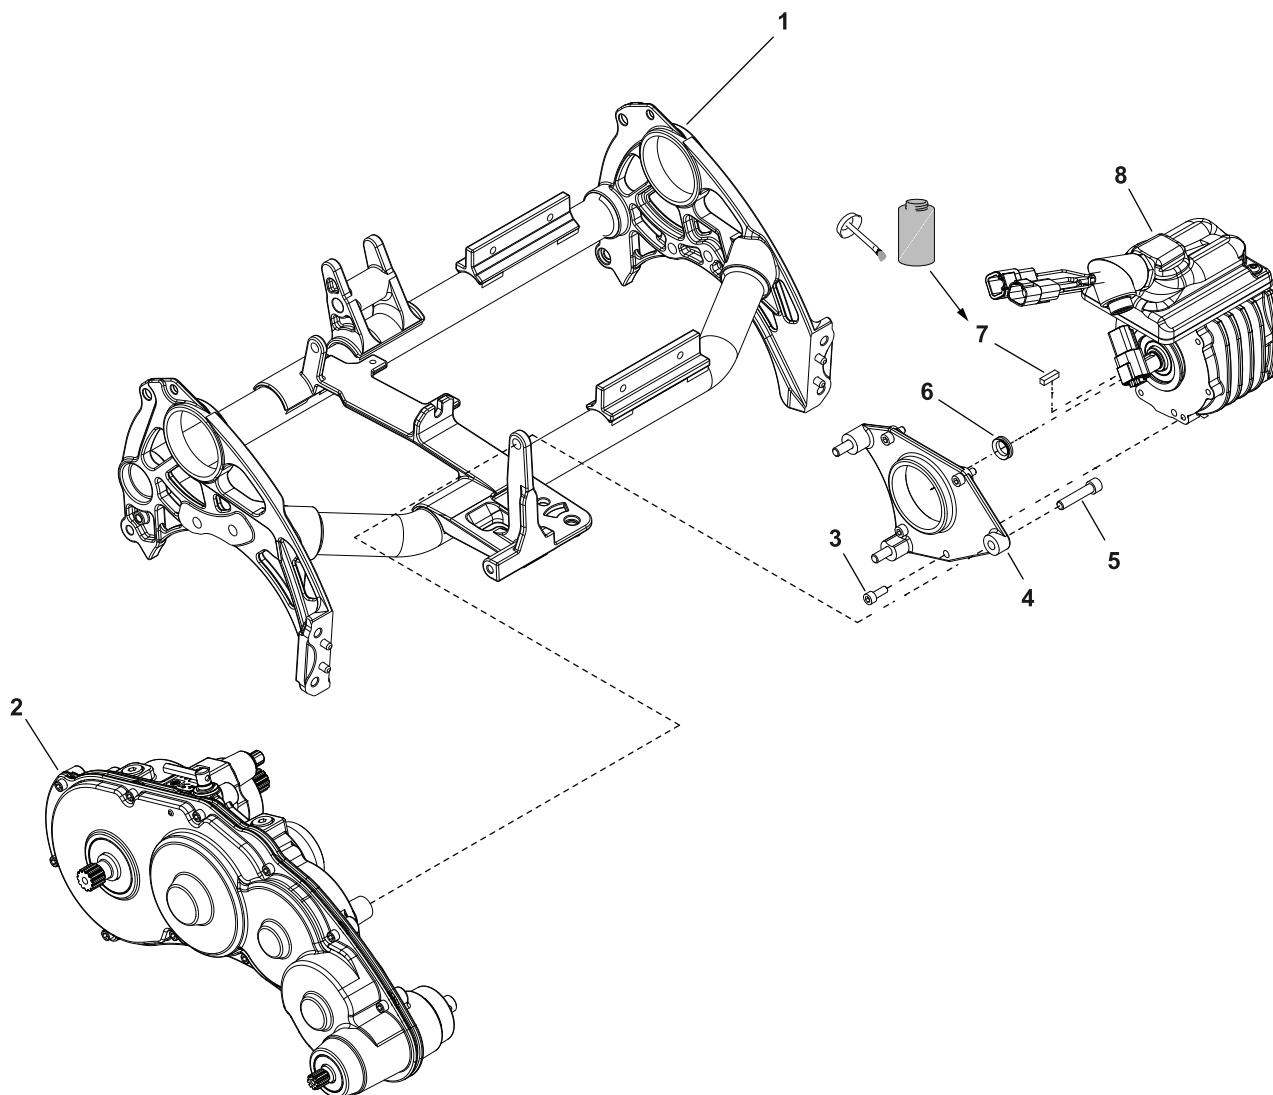

Figure 67
5. Remove the 4 socket-head screws (item 3 in Figure 67) that secure the electric motor to the motor adaptor (4).
7. Remove the key (7) from the motor shaft.
8. Remove and discard the closed cell foam seal (item 6 in Figure 67) from the motor shaft.